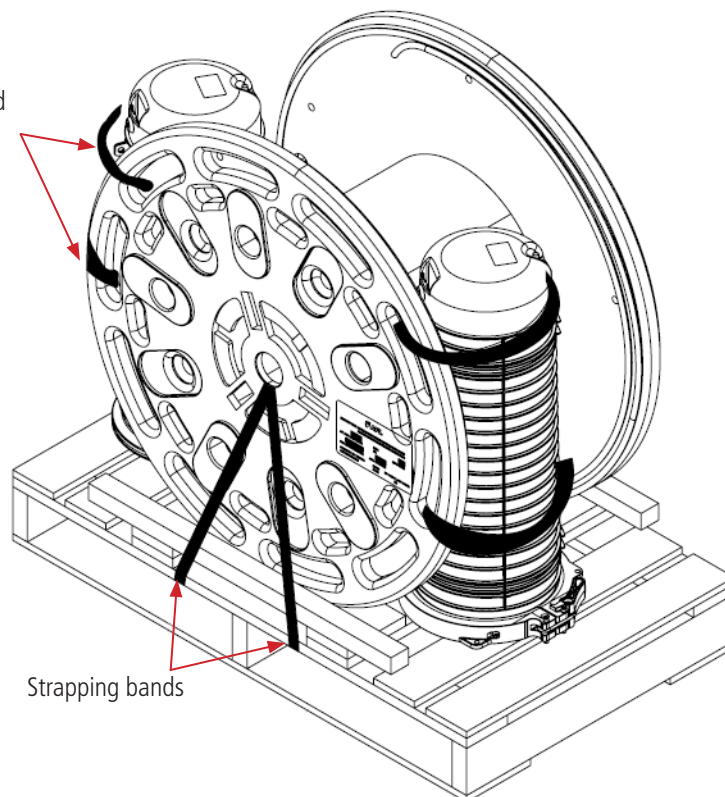

Figure 1 – Apex Restoration Kit Packaging Configuration
- All kit components are palletized, with the Apex X-2S closures secured to the WTC reel flange. (Figure 1)